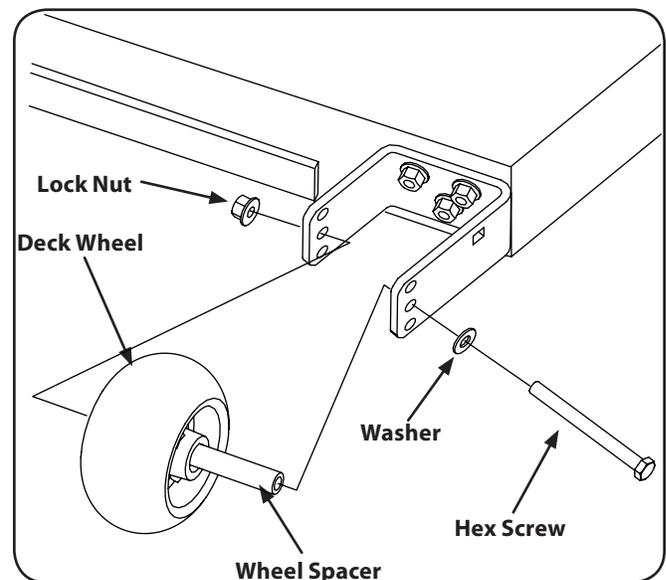

Figure 6-7
2. Remove the lock nut securing one of the front gauge wheel shoulder screws to the deck. Remove the gauge wheel, wheel spacer, washer and hex screw. Refer to Fig. 6-7.